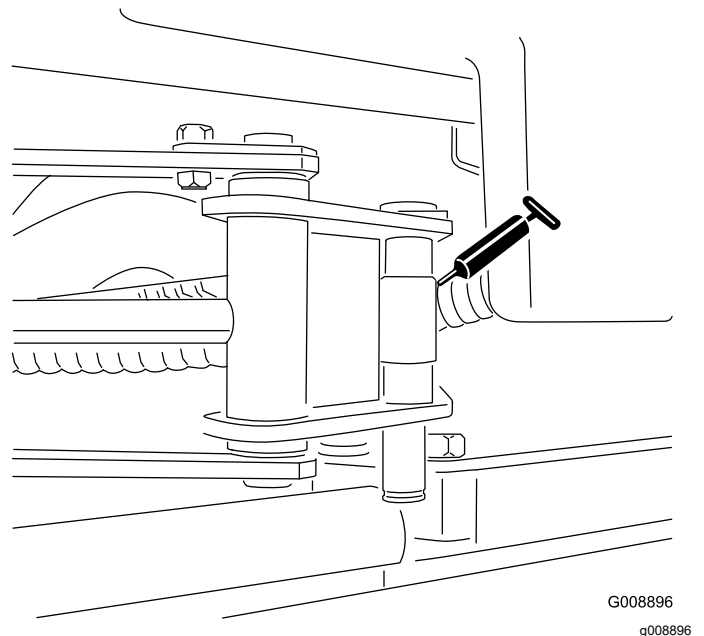

Figure 35
- 2 sidewinder-cylinder ends (Figure 35)